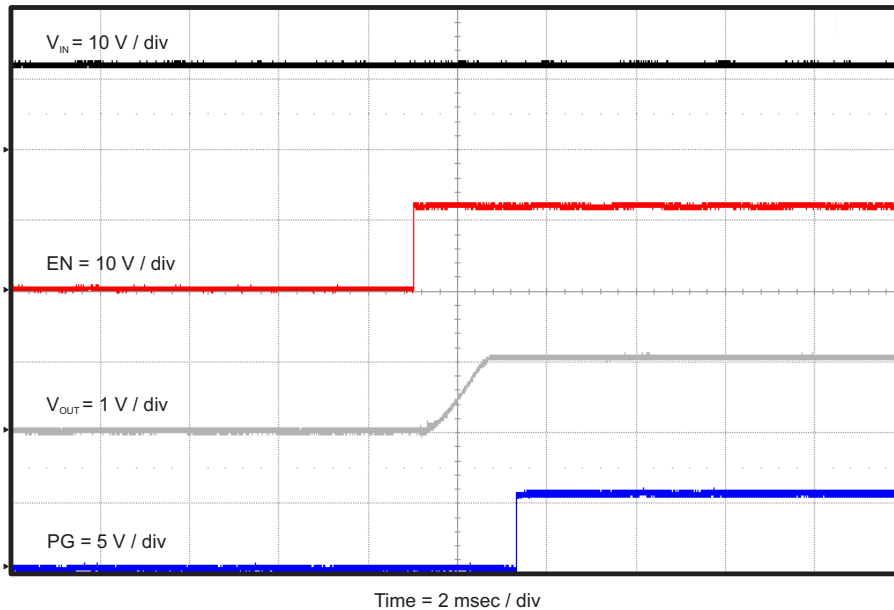

Figure 12. TPS54625EVM-608 Start-Up Relative to EN
The TPS54625EVM-608 start-up waveform relative to enable (EN) is shown in Figure 12. Load = 1 Ω resistive.